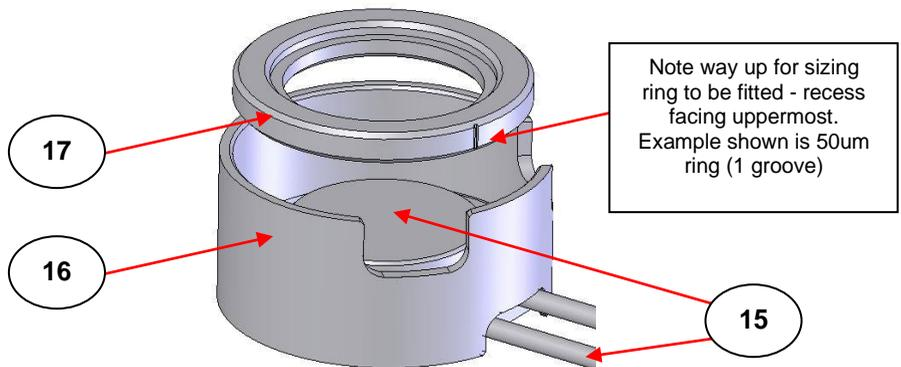

Fig 6. Sizing Ring (17) Placed Into Shield (16)
Take one of the six sizing rings (17) and place it the correct way up into the shield (16) to rest over the lower film platen assembly (15). (See detail in Fig 6.)